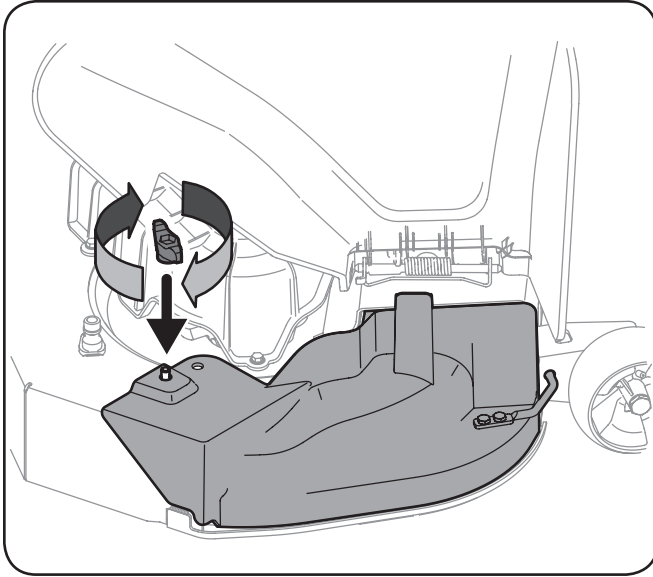

Figure 1-7
4. Secure the mulch plug in place with the wing knob. See Figure 1-7 (*fabricated decks*) or Figure 1-8 (*stamped decks*).